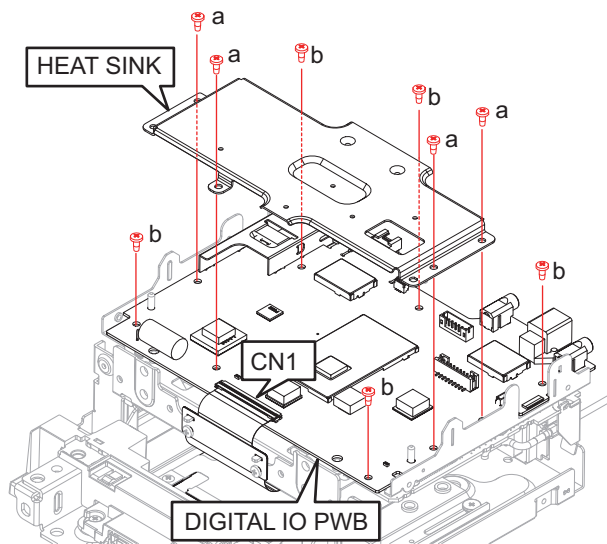

Fig.18
- (13) Disconnect the FPC from connector.
(14) Remove the 4 screws (a), and remove the HEAT SINK. (See Fig.18)
(15) Remove the 5 screws (b), and remove the DIGITAL IO PWB. (See Fig.18)